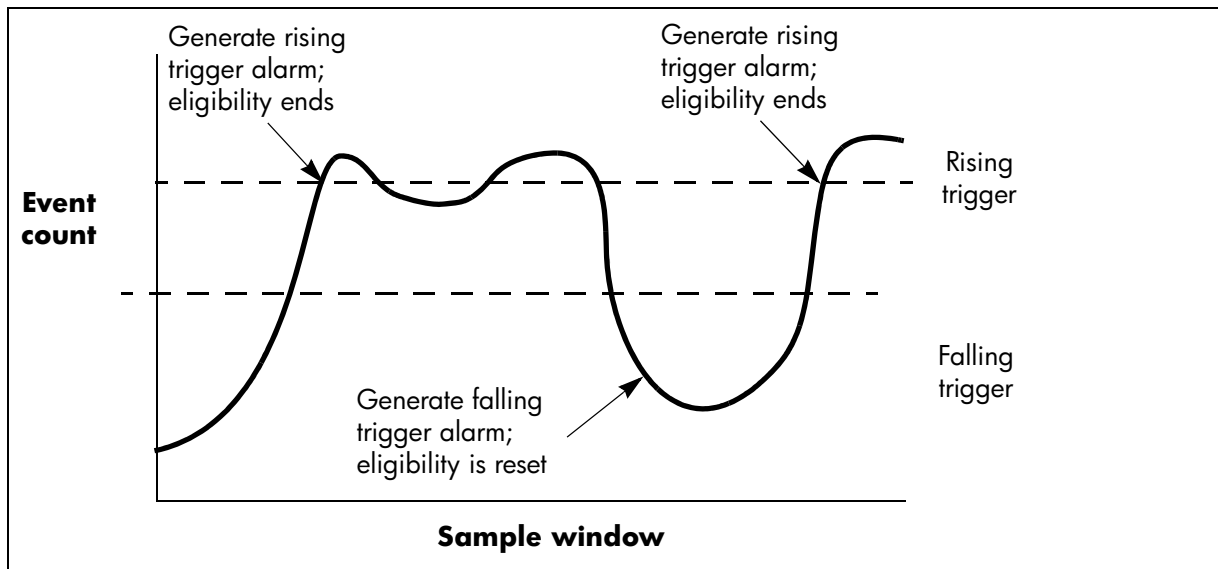

Figure 29 Port threshold alarm example
6. Enter a value for the rising trigger. A rising trigger alarm is generated when the event count per interval exceeds the rising trigger. The switch will not generate another rising trigger alarm for that event until the count descends below the falling trigger and rises again above the rising trigger. Consider the example in Figure 29.